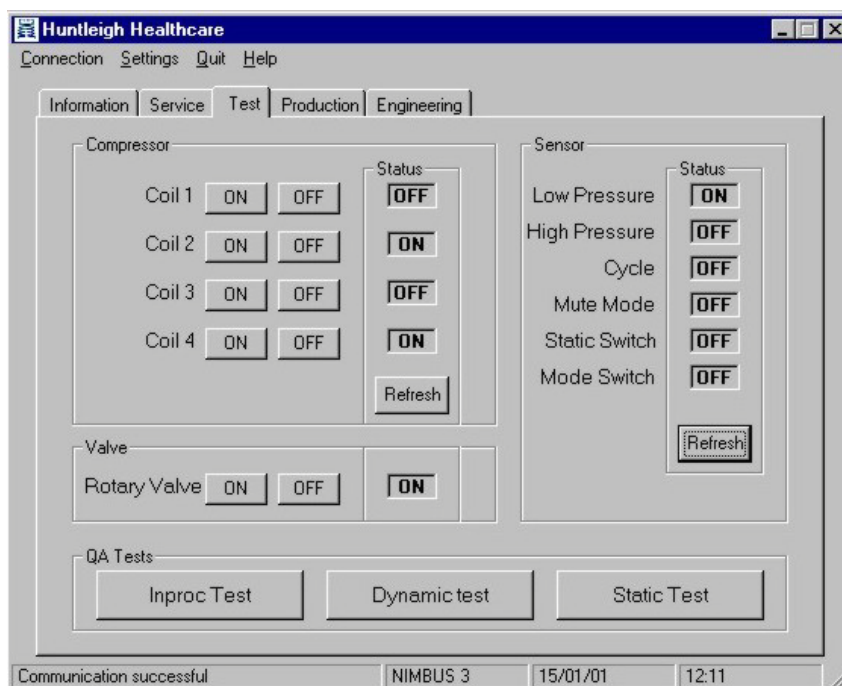

Figure 4 - Test Tab on the PC connected to the IR Interface
3.2 Select the **Test** tab on the PC, enter the password **TEKKICHECK**, and the **Test** tab is displayed (Refer to Figure 4).